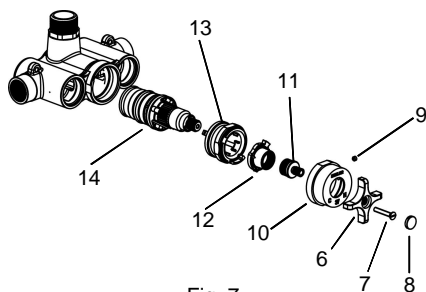

Fig. 7
Make sure round mark on cross handle aligned with the number 37 on bonnet(10) before your action. Remove the temperature handle kit according to the process in previous page. Loosen the screw (9) by 2mm hex wrench, take off the bonnet. Remove stem(11), detent(12) and stop assembly(13)(Fig.7). Removing the thermostatic cartridge(14) cautiously. Clean the thermostatic cartridge by soaking it in warm vinegar.